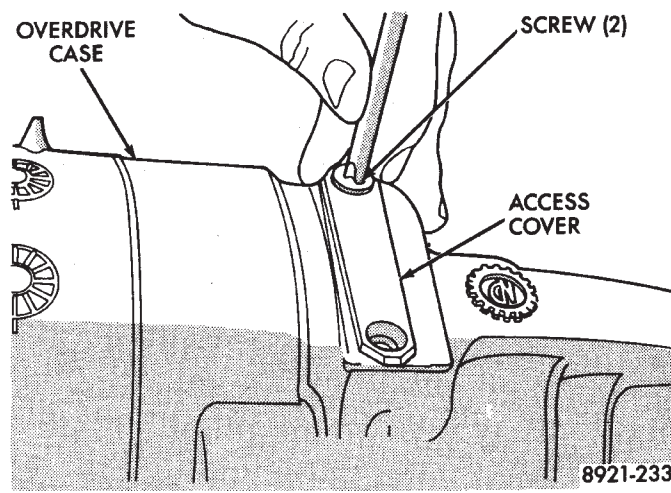

Fig. 9 Removing/Installing Locating Ring Access Cover
(9) Remove access cover and gasket from case (Fig. 9). Cover provides access to output shaft front bearing locating ring.